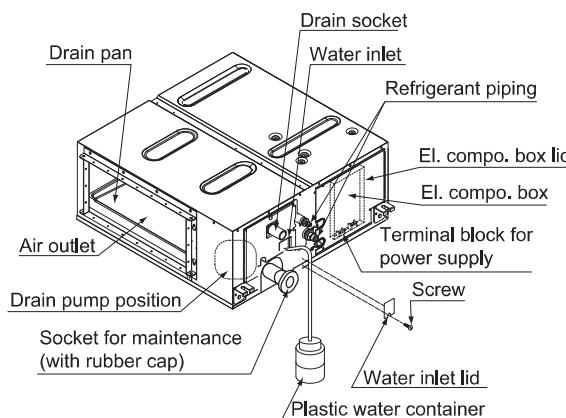

Fig. 15
- Gradually pour 1 litre of water from the inspection port at the bottom of the drain socket on the left side of the drain socket into the drain pan giving caution to avoid splashing water on the electric components such as drain pump and confirm drainage by operating the indoor unit under cooling mode according to **10. FIELD SETTING. (Refer to Fig. 15)**
3. Gradually pour 1 litre of water from the air outlet on the left side of the drain socket into the drain pan giving caution to avoid splashing water on the electric components such as drain pump. (**Refer to Fig. 15**)
• On the completion of the drainage check, refer to the following illustration, and use the provided large sealing pad (5) and insulate the metal clamp (1) and drain hose(2)